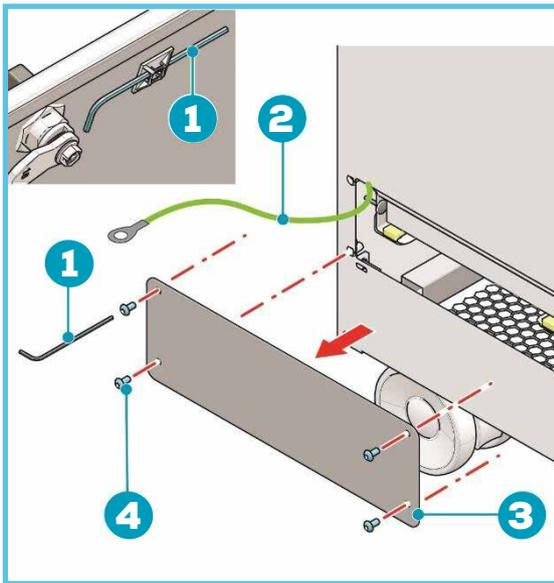

Figure 12
2. To preform Hard Reset you will have to remove the PreFilter cover (Figure 12, pos.3). To do that use the hex key (figure 12 pos. 1), supplied with your ICon. You hex key is hidden on the lid of the HEPA filter compartment.